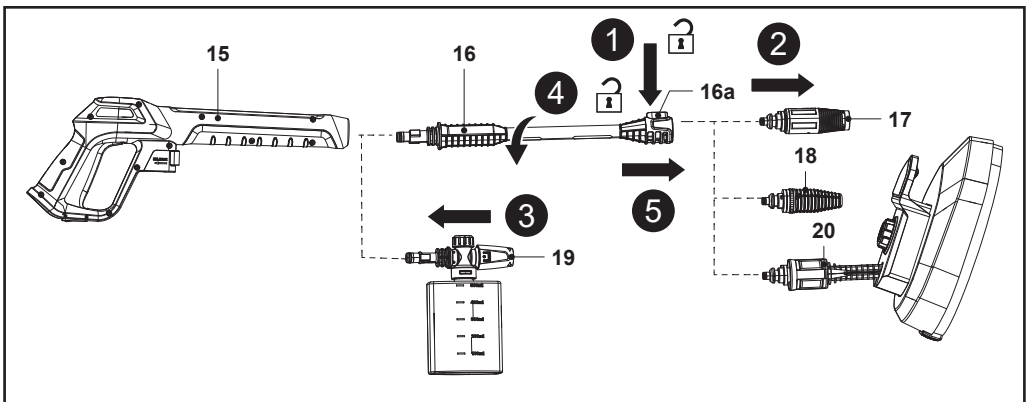

Fig. 4
4. To disconnect the nozzle, press the lock button (16a) and keep it in place, then pull the assembled nozzle out (Fig. 4, steps 1, 2). Reinstall a required nozzle.
5. To disconnect the extension lance (16) or detergent bottle nozzle (19), push and turn the extension lance (16) counterclockwise to remove it (Fig. 4, steps 3, 4, 5). Reinstall a required spray gun accessory.